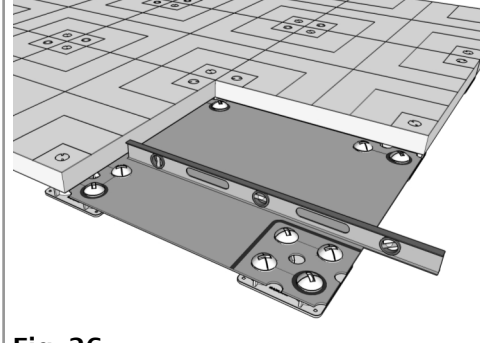

Fig. 26
*(NOTE: be sure to level each Pier (A) and secure with Anchor Spikes (D). (Fig. 26)*